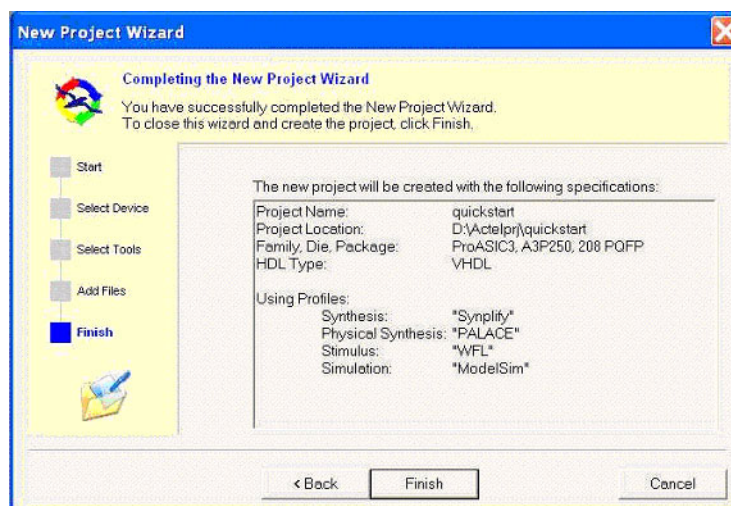

Figure 7-7. Summary in New Project Wizard
14. Review your project information. Click **Finish** to close the Wizard and create your new project (Figure 7-7). Click **Back** to return to any step of the Wizard and correct information in your project.